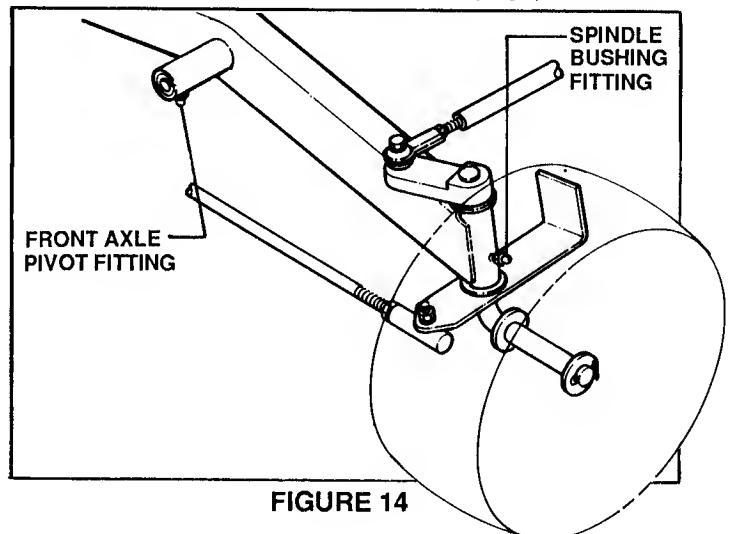

FIGURE 14
- **FRONT AXLE PIVOT & SPINDLE BUSHINGS:** Lubricate the center pivot fitting on underside of the front axle and each spindle fitting located on rear of front axle (toward operator). See Figure 14. (Continued on next page)